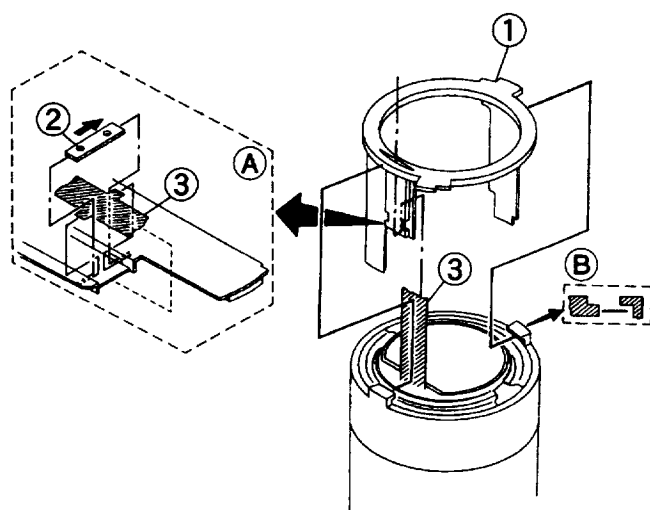

Fig13
(11) Remove the HELLICOID RING (①) by disengaging two CLAWS (B). (Fig. 13)
[NOTE] Pay attention to the SHUTTER FPC (Fig. 13, ③).
(12) Take off the FPC GUIDE 1 (②) then remove the SHUTTER FPC (③) from the HELLICOID RING (①). (Fig. 13)